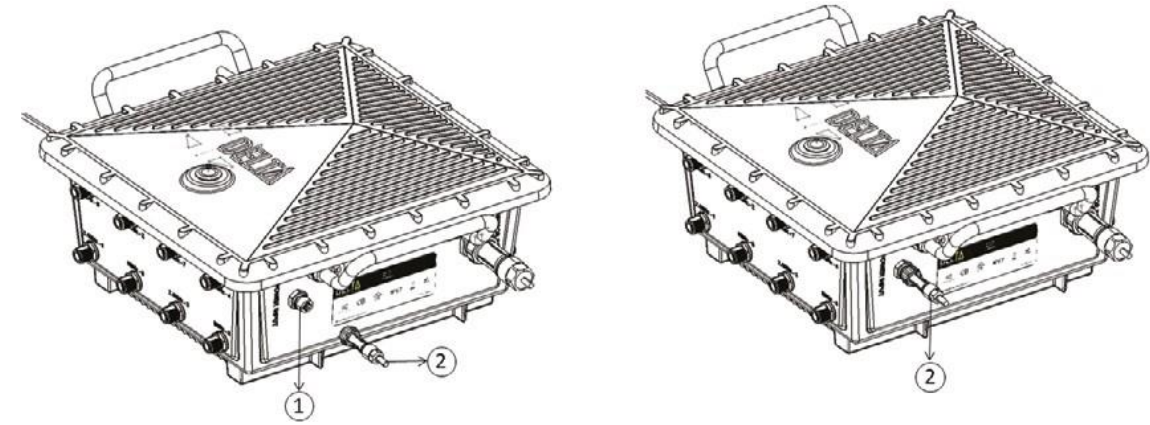

Figure 31: Connecting voltage tapping connector to power input
- Connect the voltage tapping connector (2) to the power input connector on the hyperSPROUT™ smarthub or hyperHUB™ access point as shown in following Figure 31.